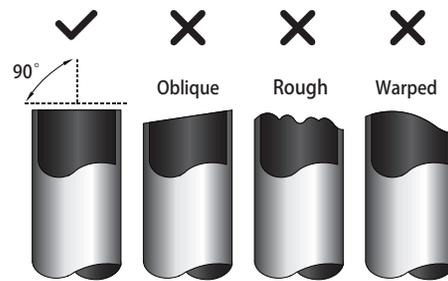

Fig. 7.4
1. Make sure that the pipe is cut at a perfect 90° angle. Refer to Fig. 7.4 for examples of bad cuts.